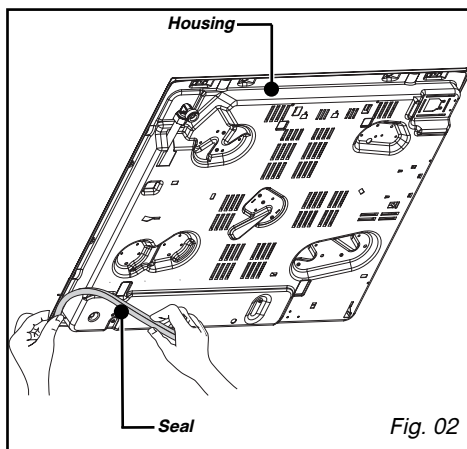

Fig. 02
– To ensure a tight seal between the housing and the work top, glue the foam seal **along the exterior edge of the housing** before installing the hob (Fig. 02).